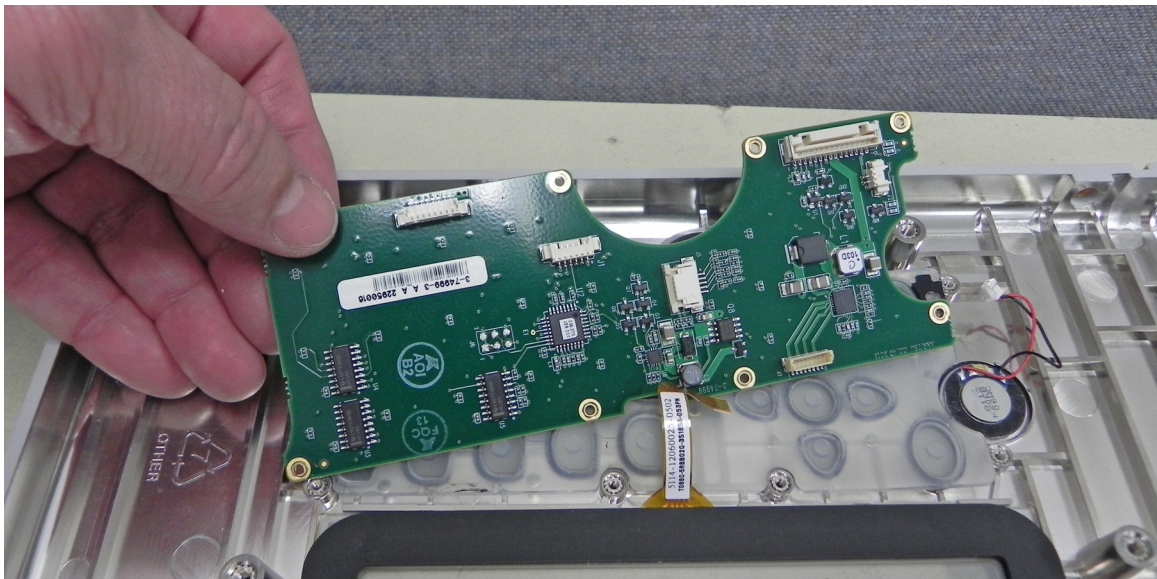

Figure 5-16. Remove Keypad PCB
8. Carefully remove the PCB to expose the PCB membrane (Figure 5-16).